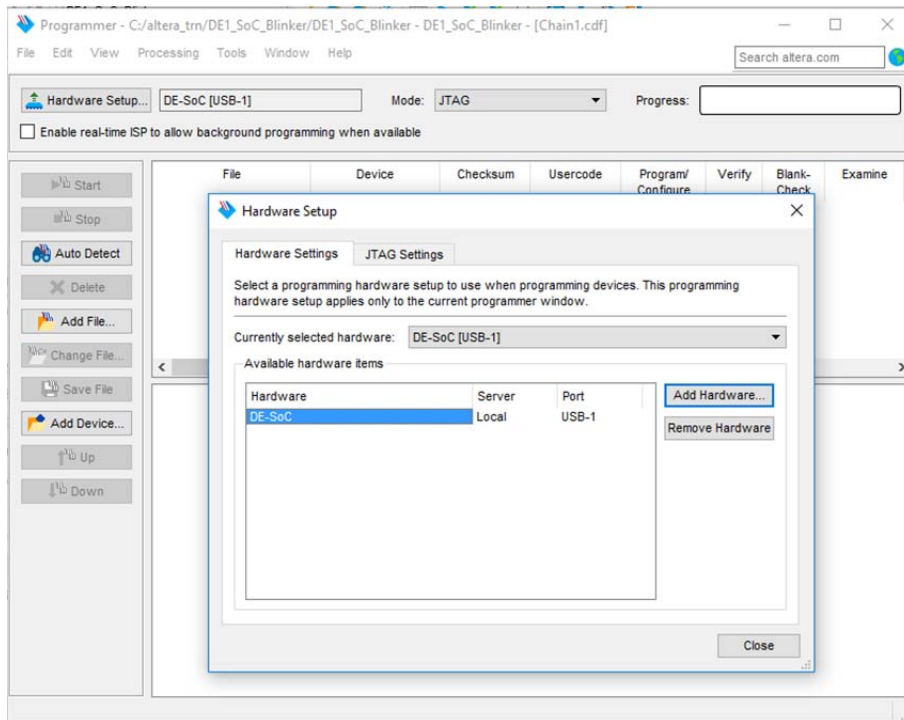

Fig. 100: Selection of the USB-blaster in Programmer.
3. Select “hardware setup” (top left side of the Programmer window, Fig. 100) and ensure that the currently selected hardware is DE-SoC [USB-1]. It should be selected by default. If not currently selected, double click on DE-SoC in the available hardware items list.